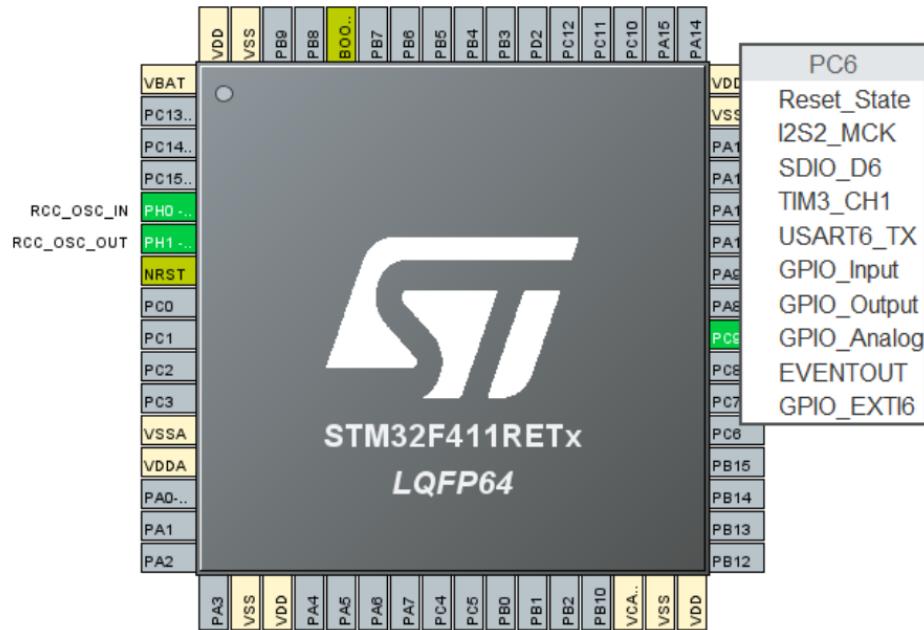

Figure 1.12: Pinout: EXTI
- In the pinout view (Figure 1.12), you can assign a pin as an external interrupt (GPIO_EXTIx) from the drop menu.